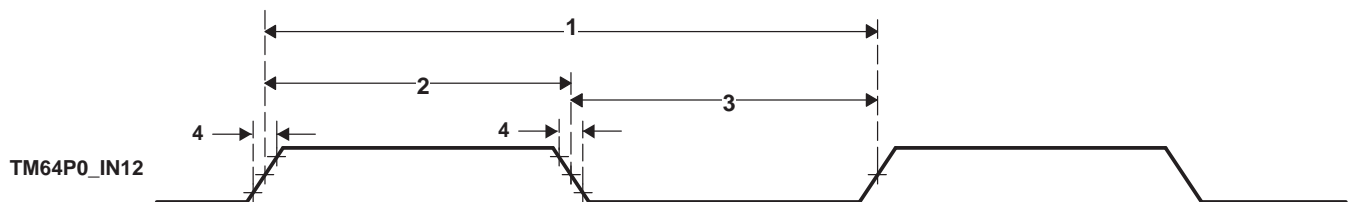

Figure 5-82. Timer Timing
Table 5-132. Timing Requirements for Timer Input(1) (2) (see Figure 5-82)